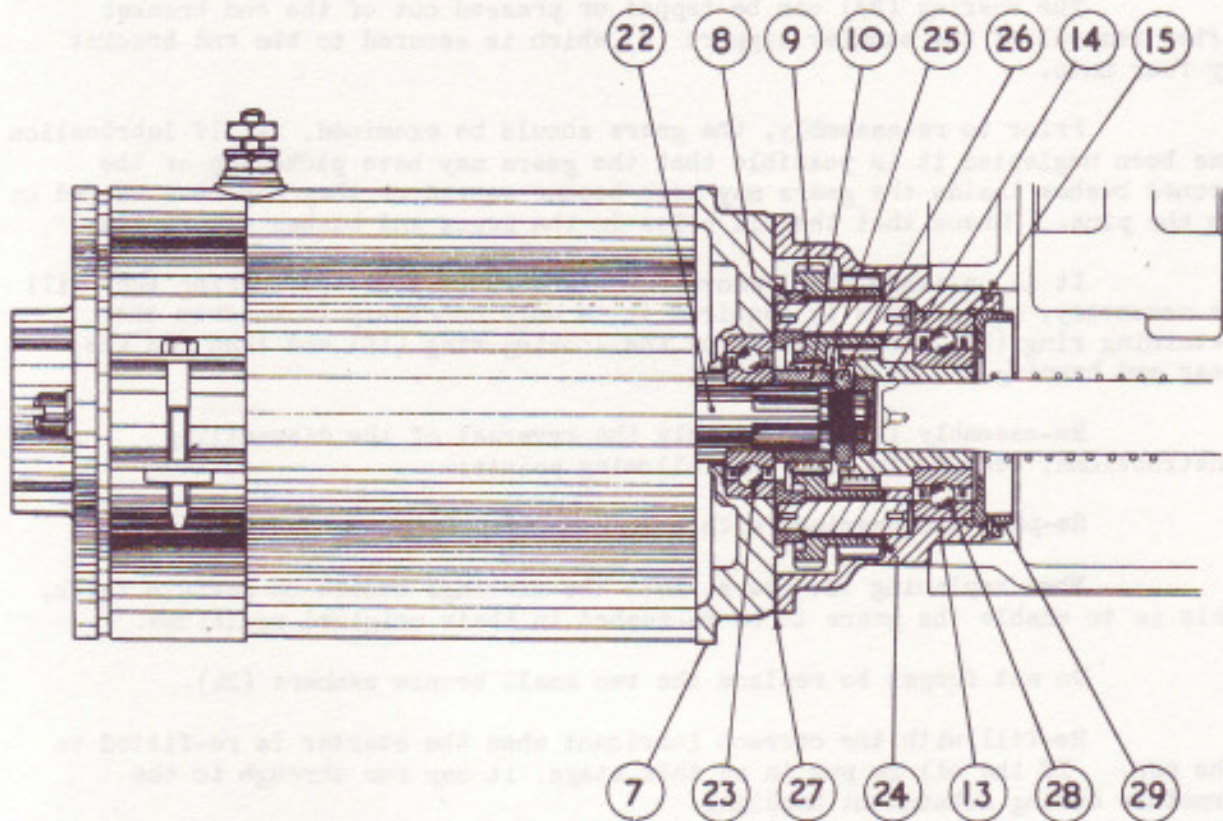

FIG. 15. SECTION THROUGH REDUCTION GEAR.
Remove the 4 nuts and spring washers which retain the aluminium casing (13, Fig.15) to the drive end bracket (7). Remove the aluminium casing but take care not to damage the paper washer (27) and not to lose the two bronze washers (24).